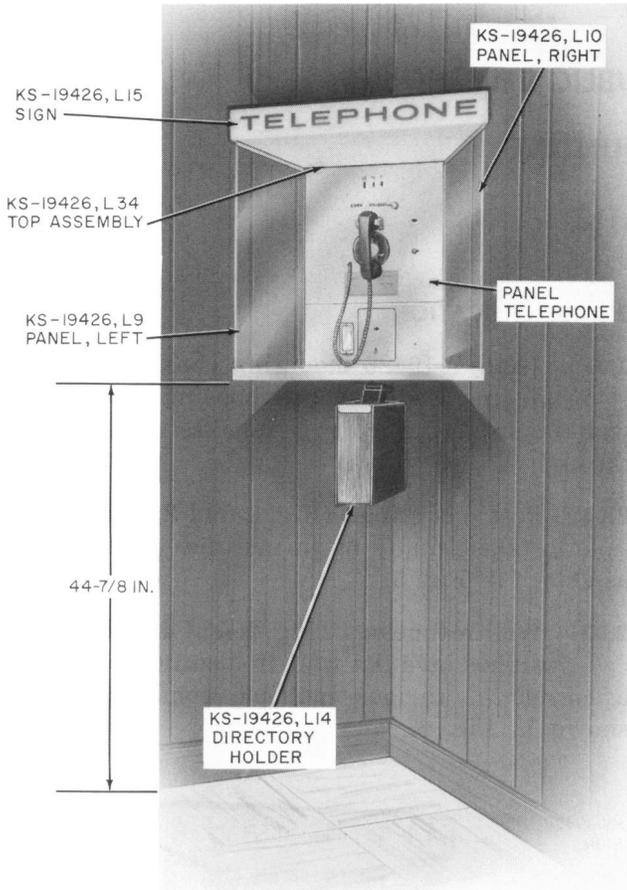

Fig. 3 — KS-19426 Mounting in Corner Using List 4 Support
2.03 Wall mountings (Fig. 3 and 4) may be installed on a flat wall, in a corner, or around a corner in various multiple combinations as shown in Fig. 6.
- (b) List 14 directory holder (Fig. 3 and 4) for indoor use.